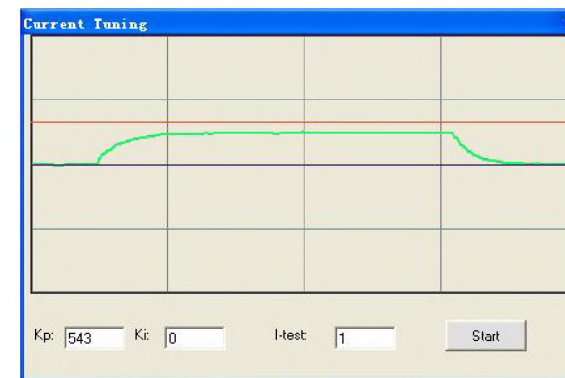

Figure 23: Kp=543, Ki=0 (poor performances)
**Kp: Proportional Gain.** Proportional Gain determines the response of the driver to current setting command. Low Proportional Gain provides a stable system (doesn't oscillate), has low stiffness, and large current error, causing poor performances in tracking current setting command in each step like Figure 23. Too large Proportional Gain values will cause oscillations and unstable systems.